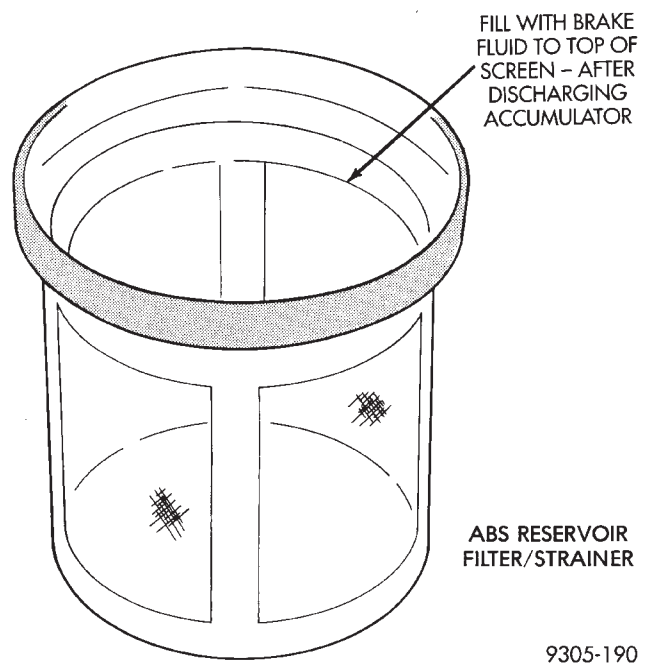

Fig. 7 ABS Reservoir Fill Level On Filter/Strainer
(3) Inspect the fluid level, see instructions on top of reservoir. (TO TOP OF WHITE SCREEN ON FRONT FILTER/STRAINER.)
(4) Fill with brake fluid to top of screen (Fig. 7) on the filter/strainer located in brake fluid reservoir. Use only brake fluid conforming to DOT 3 specifications such as Mopar® or equivalent.
(5) Replace reservoir cap.